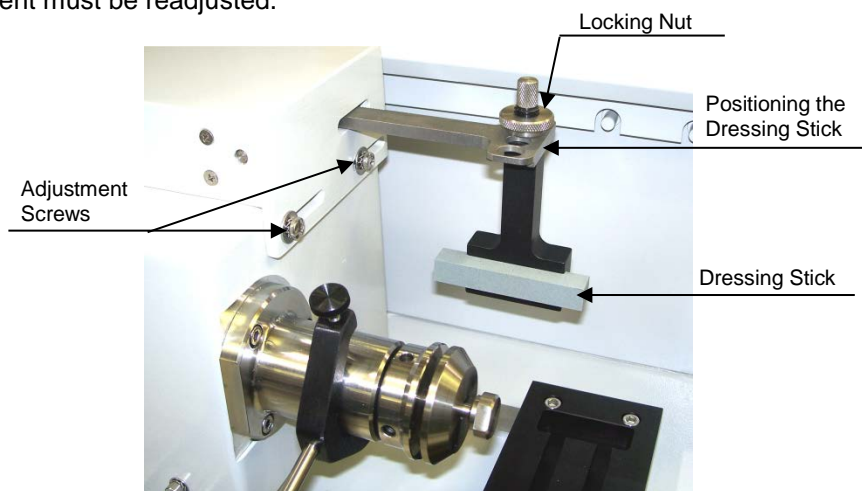

Figure 11 Automatic Dressing System
2. Position the dressing stick holder in the appropriate hole for the selected blade (see Figure 11).
3. Loosen the adjustment screws to horizontally position the dressing stick (see Figure 11).